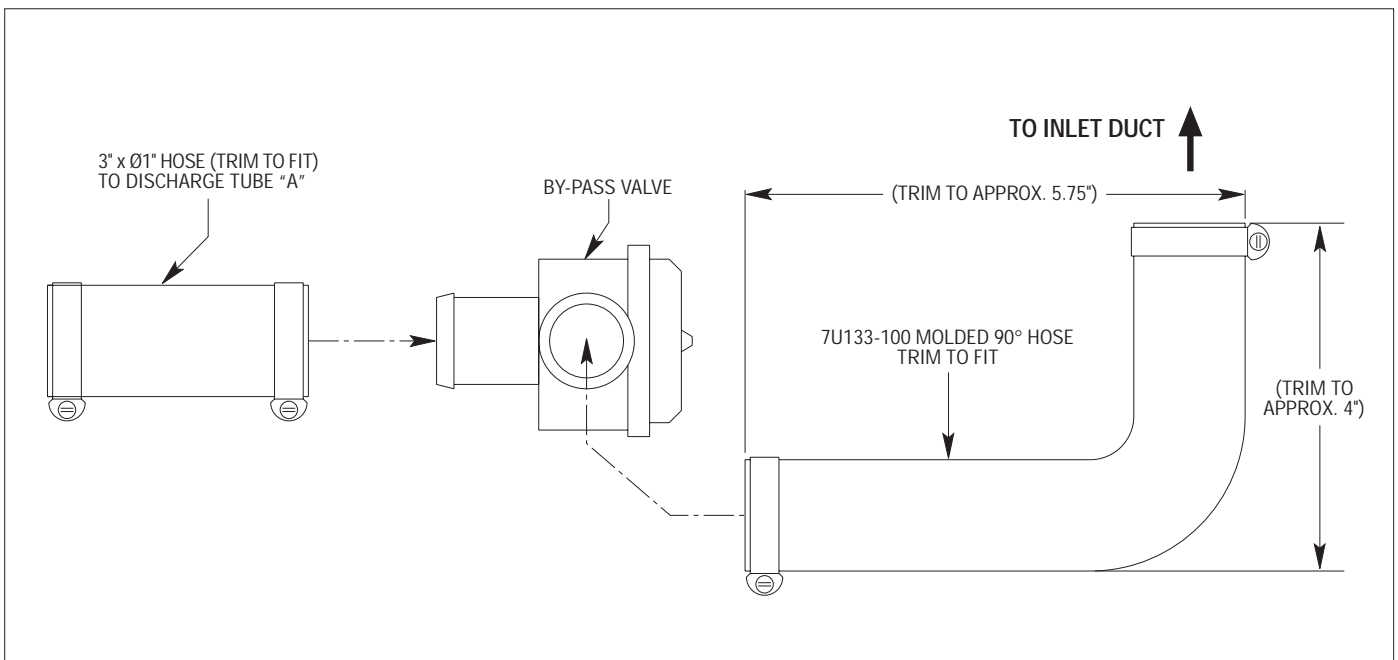

Fig. 3C-a
- b. Locate the 1" molded rubber 90° elbow and cut approximately 6" from the long end and 1" from the short end. Attach the long end to the by-pass valve discharge and secure using the #16 hose clamps provided. (See Fig. 3C-a, 3C-d.)
- c. Attach the open end of the 3" long hose to the by-pass port on tube "A" and secure using a #16 hose clamp. The open end of the 90° hose will be connected to the inlet duct in a later step. See Fig. 3C-d.)